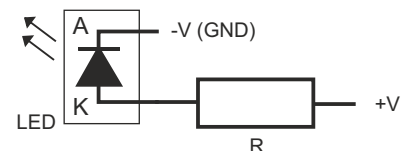

Fig. 3 Connecting the LED connector Oc4
- 5 outputs OC (Open Collector max 150mA) Eg. To connect relays or LEDs (LEDs should be connected according to Fig. 3)